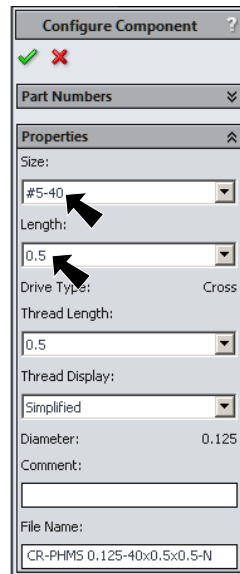

**Fig. 9**
Step 1. Click the **Design Library** tab  in the Task Pane, **Fig. 9**.
Step 3. In the lower pane, **right click Pan Cross Head** and click **Create Part**, **Fig. 9**.